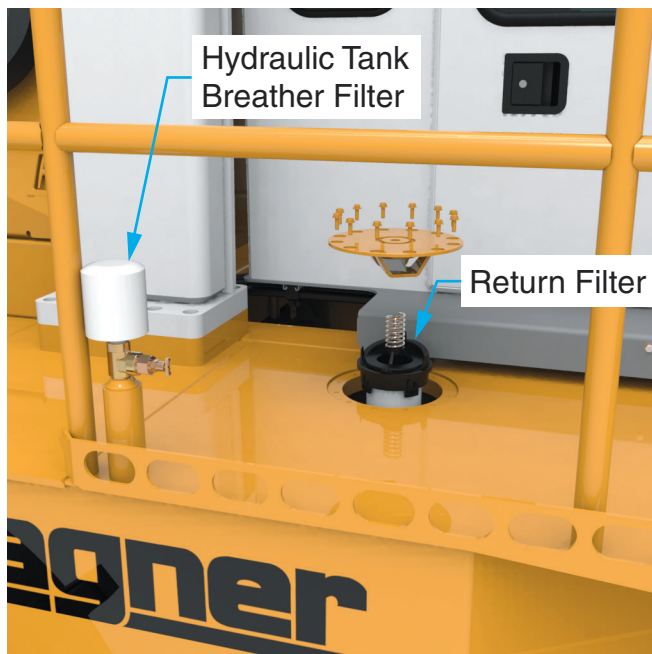

Figure 5-5-10 Return Filter and Breather Filter
The breather filter is on the deck on the right side of the machine. See Figure 5-5-10.
1. Shut down the machine and vent captive pressure by opening the petcock at the breather. See Figure 5-5-10.
The return filter is accessed from the deck on the right side of the machine. See Figure 5-5-10.
6. Discard disposable element (2).